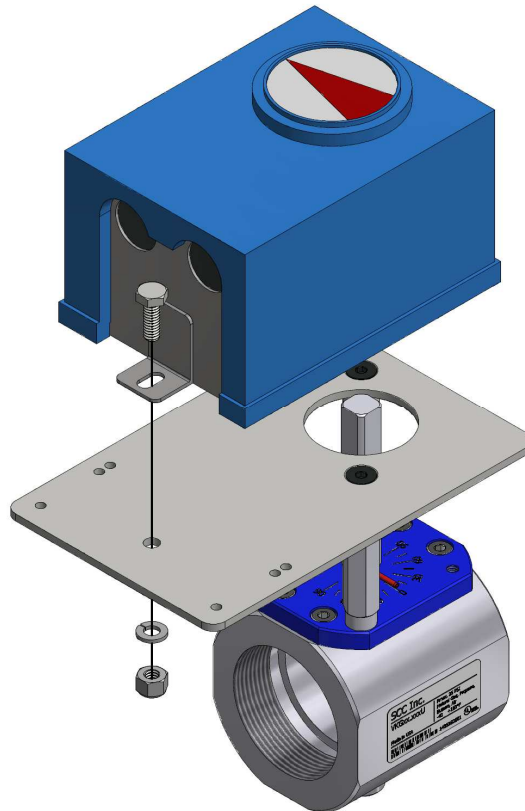

Figure 5: Actuator Installation
4. Remove the upper hub set screws from the Honeywell ControLinks actuator and replace them with the (2) 1/4"-28 x 1/4" socket set screws. Place the Honeywell ControLinks actuator onto the mounting bracket so that the square part of the coupling slides into the square bore of the actuator. Line up the mounting tab at the back of the actuator with the mounting hole in the center of the bracket. Using the 1/8" hex key, partially tighten the four hub set screws to secure the actuator to the coupling and ensure the actuator seats firmly against the bracket. Then, using the (2) 7/16" open end wrenches (or crescent wrenches), the 1/4"-20 x 3/4" hex head screw, the 1/4" split lock washer, and the 1/4"-20 hex locknut, secure the actuator to the mounting bracket as shown in Figure 5 below. Finally, tighten the four hub set screws against the coupling with a torque of 60 in-lb.